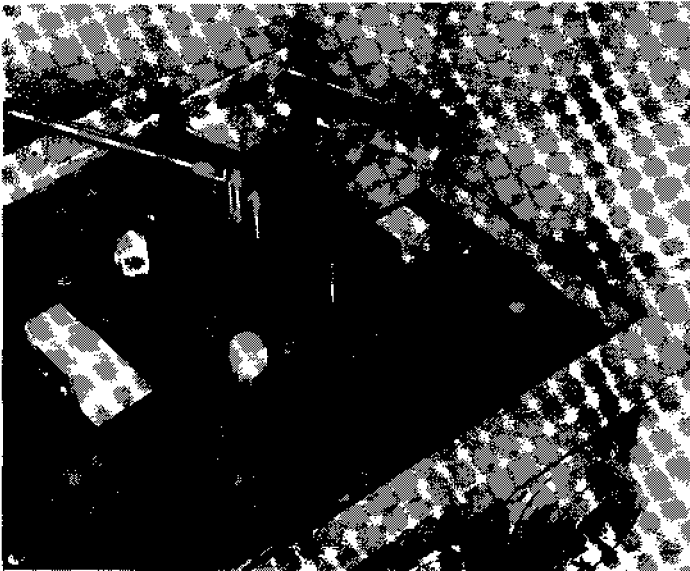
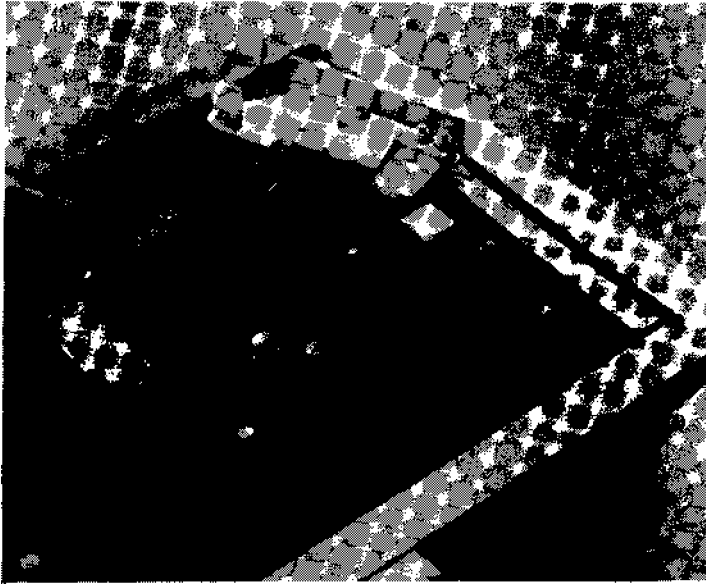

FIGURE 10
FIGURE 11
- (4) The capstan post (Figure 10) and take-up spool (Figure 11) will now rotate every 5 secs.
When the logger is connected to the test box it can be set to 'run' continuously. (The setting on the test box to do this is detailed in Test IV in Appendix III). In this setting the capstan post (Figure 10) and take-up spool (Figure 11) should revolve continuously.